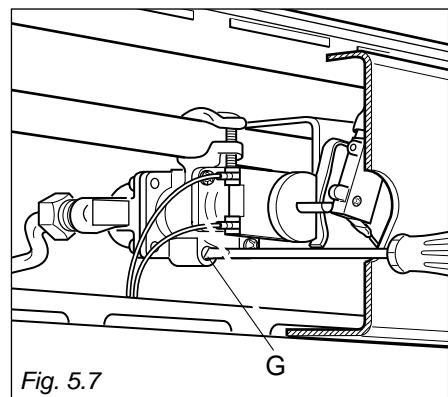

Fig. 5.7
- Remove the thermostat knob and by means of a thin screwdriver pass by the hole in the facia panel to unscrew of 3 turns the by-pass screw G (fig. 5.7)